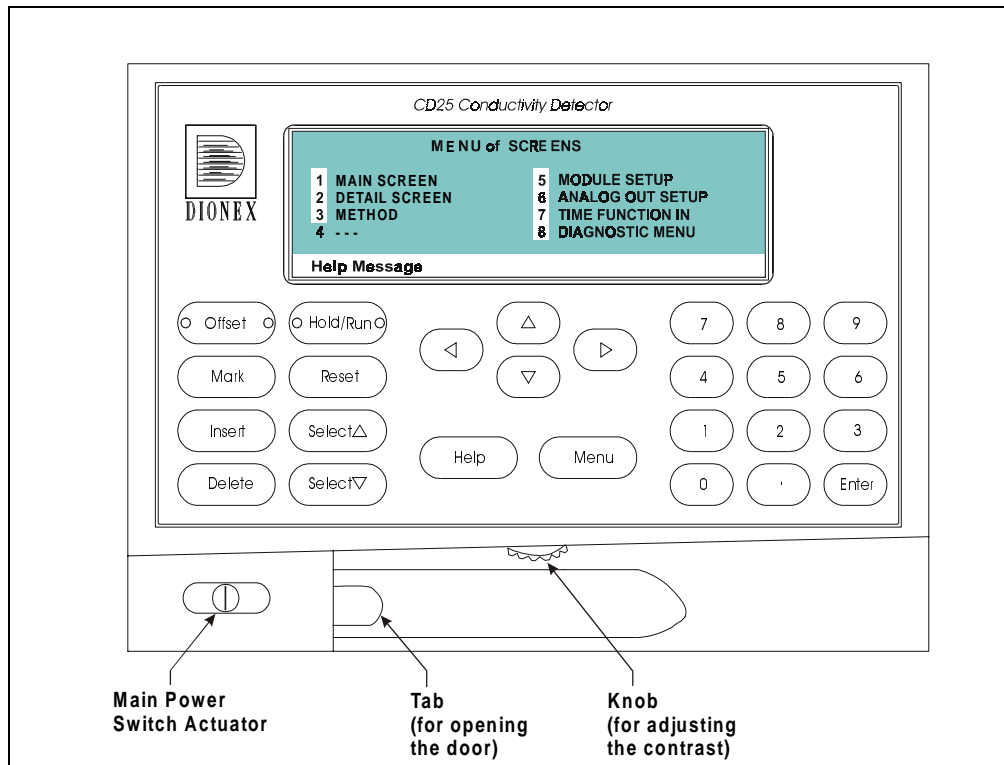

Figure 2-1. CD25 Front Panel
- To adjust the screen contrast, rotate the knurled knob in the recess below the **Help** and **Menu** buttons (see Figure 2-1).